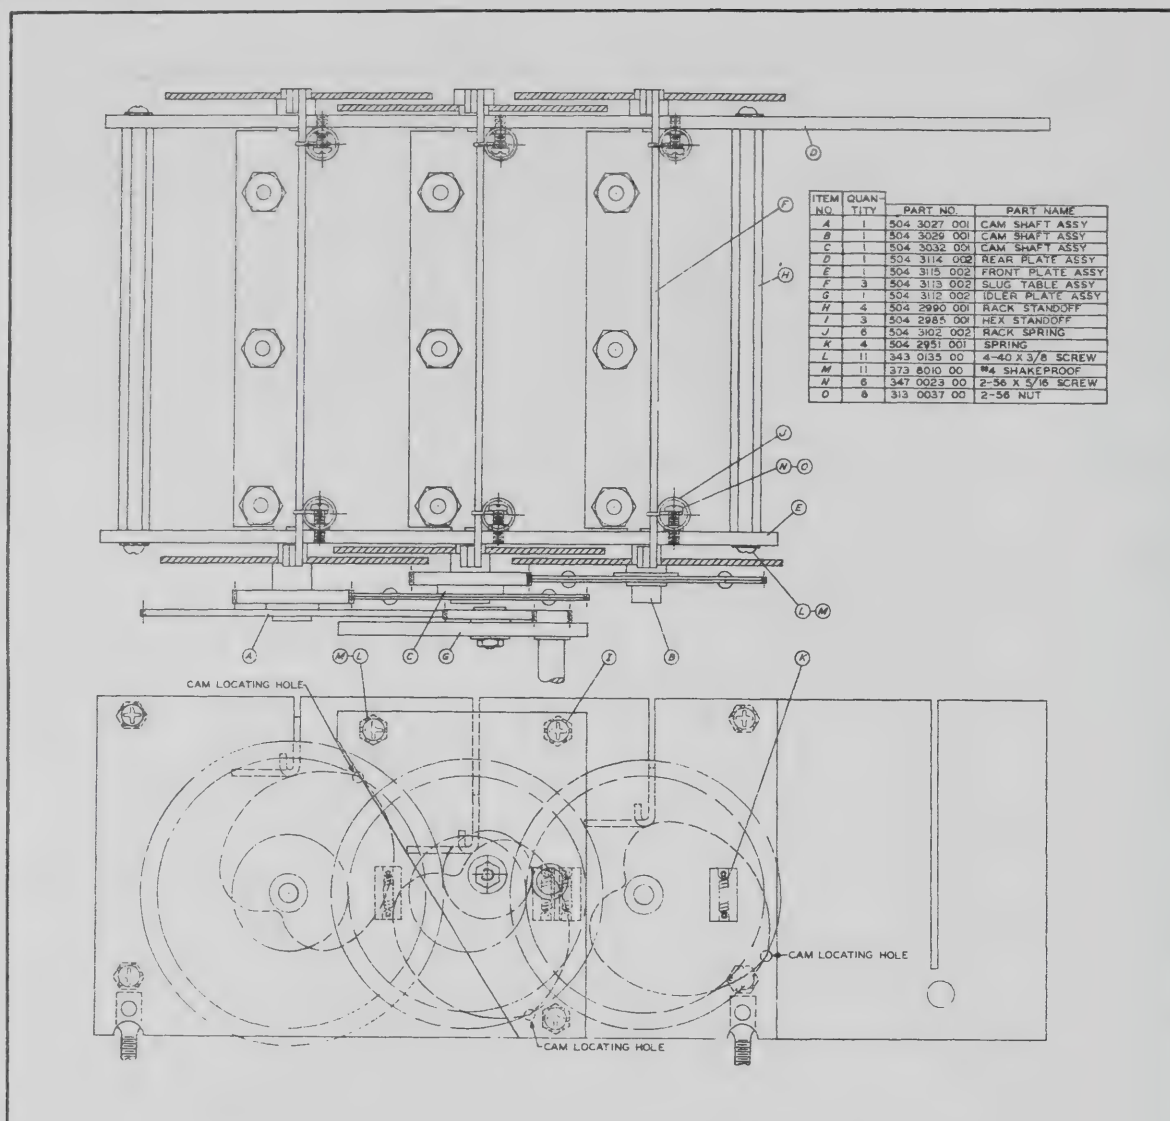

Figure 5-5. 51J-4 R-F Slug Rack Drawing
5.7.2. POSITIONS OF CAMS. - The front plate of the slug rack assembly contains three alignment holes as indicated in figure 5-5. If the cams are correctly synchronized, the tips of the front cams will be directly opposite these holes. Use a dental mirror to accurately inspect the position of the cam tips in relation to the alignment holes. If a dental mirror is not available, check positions and operation of the cams in the following manner.